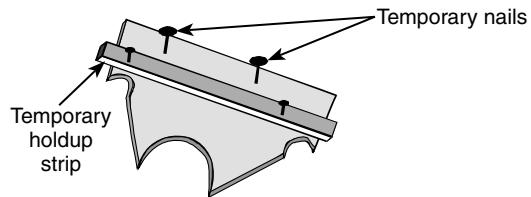

Figure 17-10
- Measure for the pipe cutouts in the vanity floor and mark each location on the cardboard pattern. There are two methods for making these cutouts. Choose the one that works best for you from Figure 17-10.